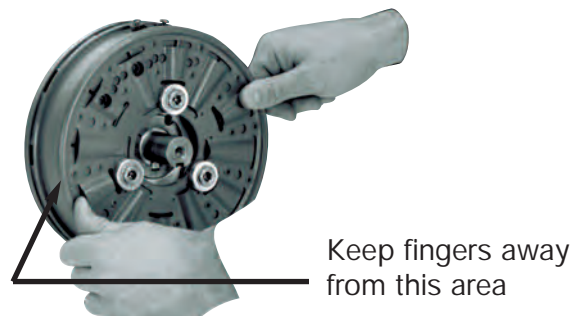

Figure 12 - Setting the airgap.
Step 13: Make the electrical connections. Apply power (90VDC) to the brake and remove the shims. Set the airgap by pressing the armature into contact with the magnet and then releasing as shown in Figure 12. The armature should spring back approximately 3/64 (.045) inch when power is applied to the magnet.